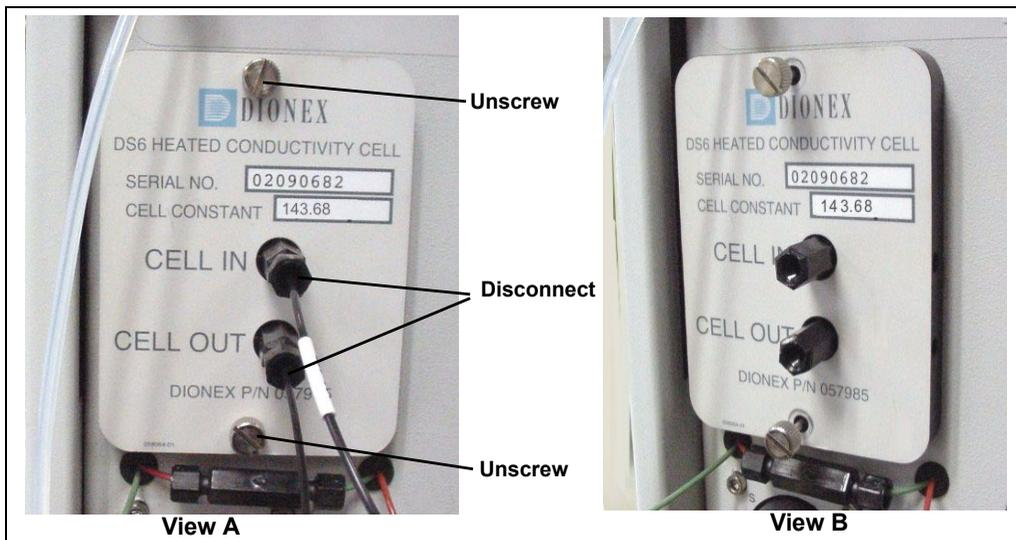

Figure 5-15. Removing the Cell Front Cover
2. Open the front door and disconnect the tubing from the **CELL IN** and **CELL OUT** fittings (see Figure 5-15, View A). Loosen the two screws on the cell front cover. The screws remain attached (see Figure 5-15, View B).